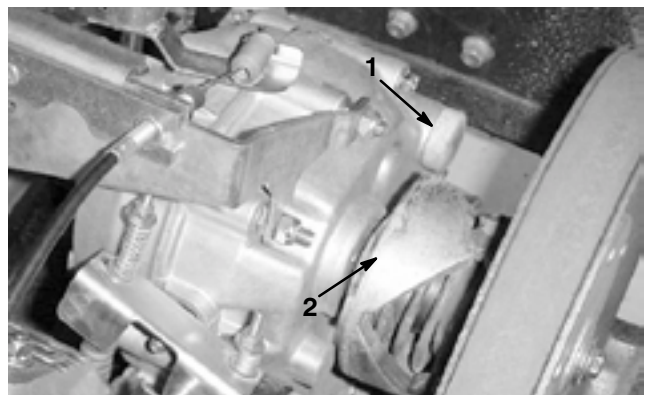

Figure 17
- A. Fill case with about 1.5 quarts (1.5 liters) of motor oil (Fig. 17).